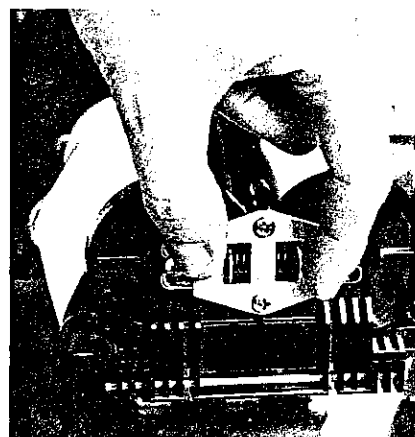
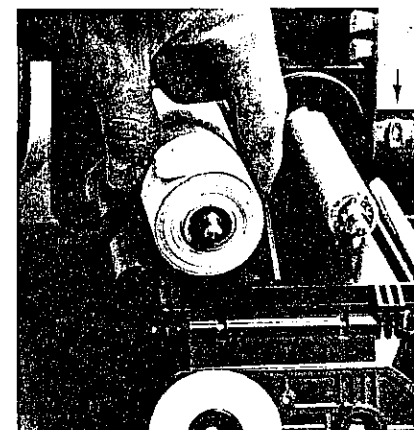

Figure 26
Figure 27
5. To remove the full take-up roll and the empty supply spool, press the two metal tabs together on the top of the platen assembly, and pull out and down on the paper retainer. (See Figure 26.) The full take-up roll can now be easily removed from the paper core shafts. (See Figure 27.)